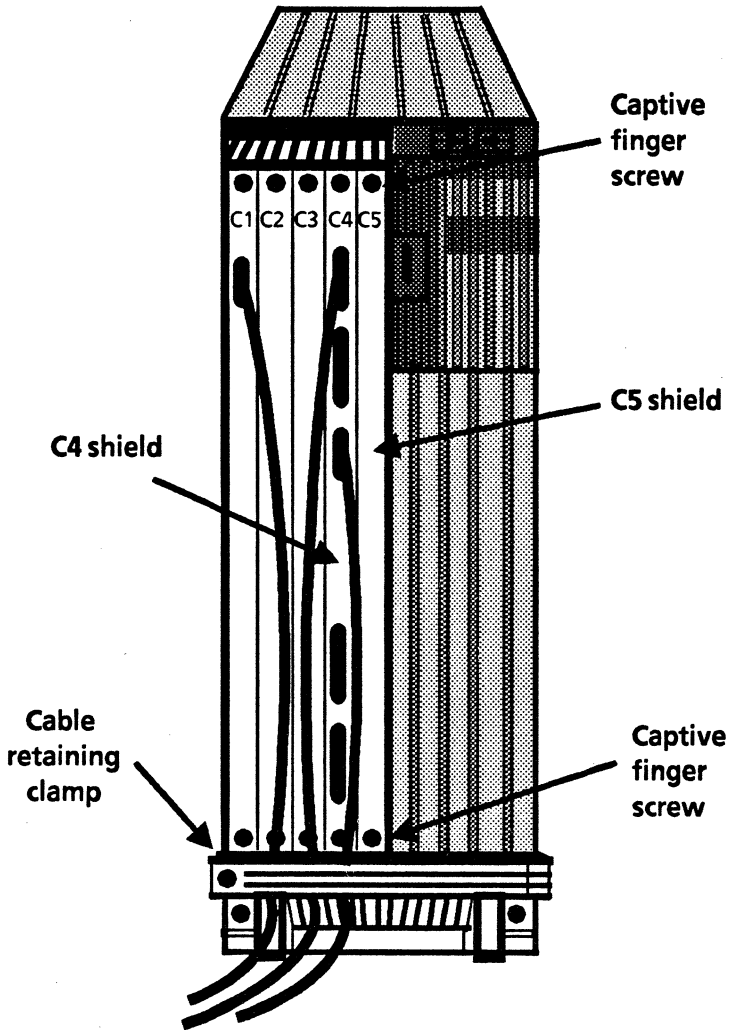

Figure 2-3 6085 processor (rear view)
3. Release the cable retaining clamp (Figure 2-3) by loosening the captive finger screw and swinging the cable retaining clamp out to the right.